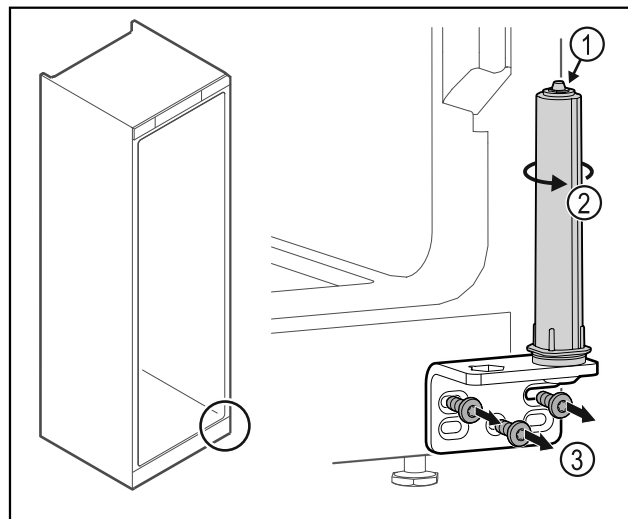

Fig. 31
- Do not disassemble the door closing system Fig. 31 (1).
- Turn the closing system Fig. 31 (2) until it clicks.
- Unscrew the hinge Fig. 31 (3).